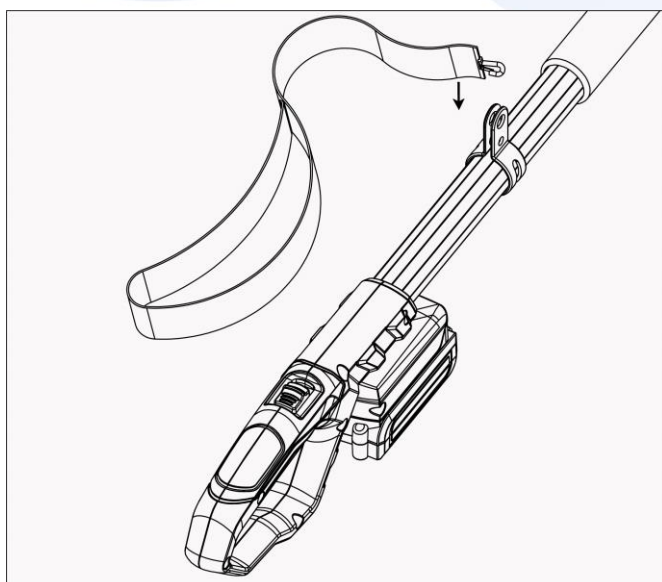

Fig.5
5. Buttons on the strap buckle the screw (See Fig.5)